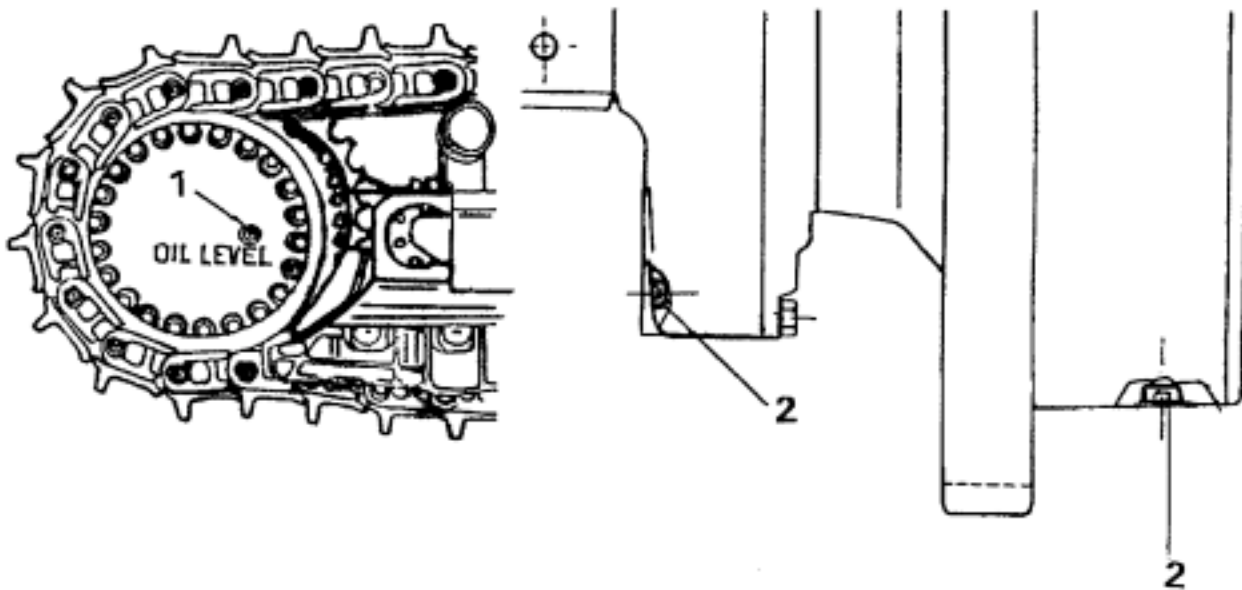

Fig. 5.42. Checking the Lubricant Level
**5.17. FINAL DRIVES (Fig. 5.42)**